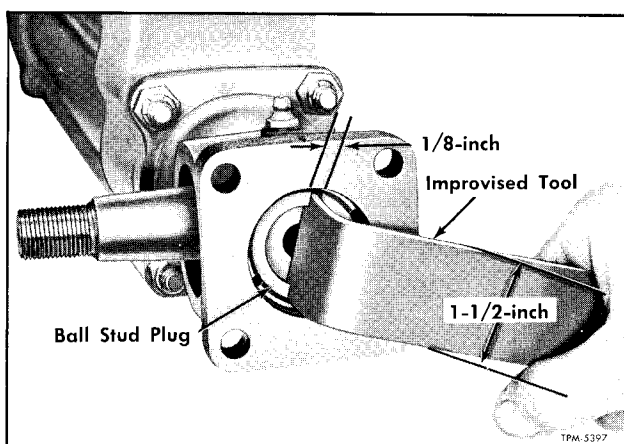

Figure 6—Removing Ball Stud End Plug With Improvised Tool
3. At booster cylinder ball stud body, remove snap ring, lock key, end plug, and spring. **NOTE:** Use improvised tool shown in figure 6 to remove end plug. Remove ball stud and two ball stud seats. Remove centering nut locking washer from centering nut. Straighten tab on locking washer if washer is to be reused.